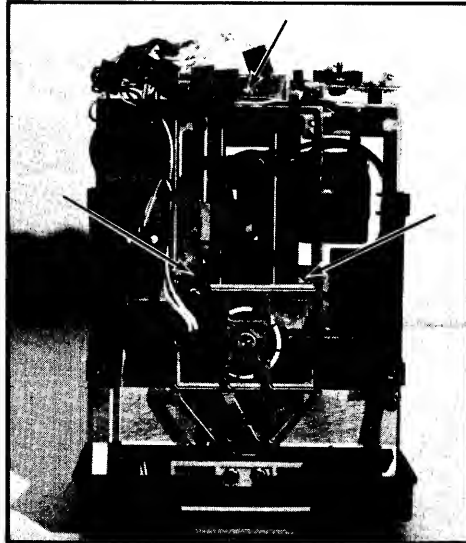

Figure 5-4. Head Assembly Retaining Screws
- j. If the amplitude of one of the lobes of the waveform is less than 80% (.8 mils) of the other, slightly loosen the three screws shown in figure 5-4 and adjust the radial head alignment by gently turning the head alignment cam screw.